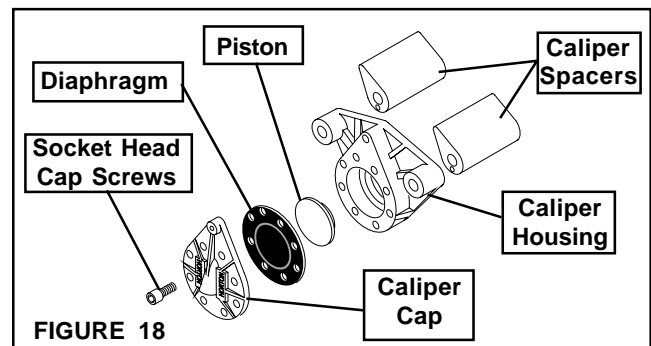

FIGURE 18
Mark the orientation of the Caliper Spacers (Item 9) in relation to the Caliper Housing (Item 1) to ensure correct orientation during reassembly (See Figure 18).
6. Remove the Socket Head Cap Screws securing the Caliper Cap to the Caliper Housing and remove the Caliper Cap (See Figure 18).
7. Remove the old Diaphragm and Piston (See Figure 18).
8. Remove the old Diaphragm from the Piston; then, slide the Piston back into the Caliper Housing (See Figure 18).
9. Place a new Diaphragm (dull side towards Caliper Housing) over the Piston and Caliper Housing (See Figure 18).